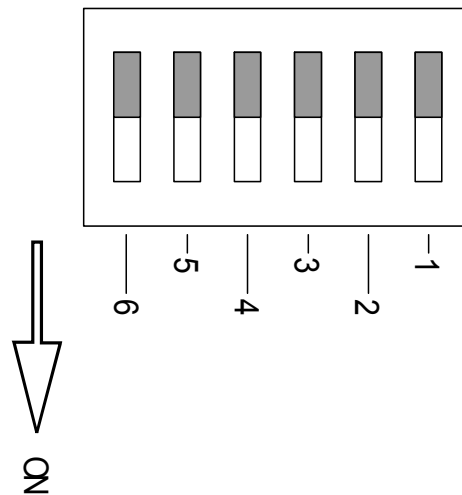

FIG. 4-4 NON TERMINATING CONTROLLER, ALL DIP SWITCHES SET IN THE OFF POSITION
Step 7. If the controller is not in a termination position, set all the dip switches to the OFF position. (See Fig. 4-4)